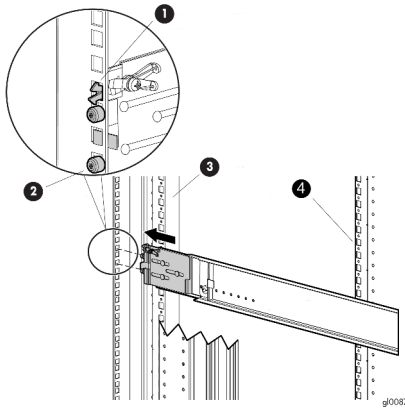

Figure 6 Attaching the rail
1. On the rear of the rail, squeeze the scissor latch (1, Figure 6) together to insert the rail and pins through the cabinet holes (2, Figure 6) until the latch engages.